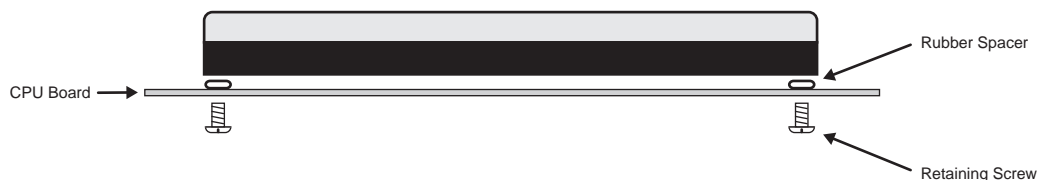

Figure 18.17 CPU Board — Retaining Screws
11. Ensuring that the **Rubber Spacers** are in place, install the replacement **Hard Drive** using the **4 Retaining Screws** you removed earlier (**Figure 18.17**).